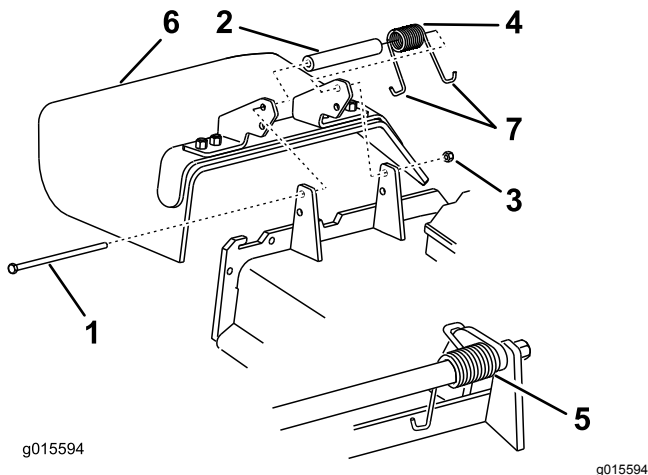

Figure 108
1. Remove the locknut, the bolt, the spring, and the spacer holding the deflector to the pivot brackets (Figure 108).
2. Remove the damaged or worn grass deflector (Figure 108).
Note: Make sure that the J-end of the spring is installed behind the deck edge before installing the bolt as shown in Figure 108.
6. Place the J-hook end of the spring around the grass deflector (Figure 108).